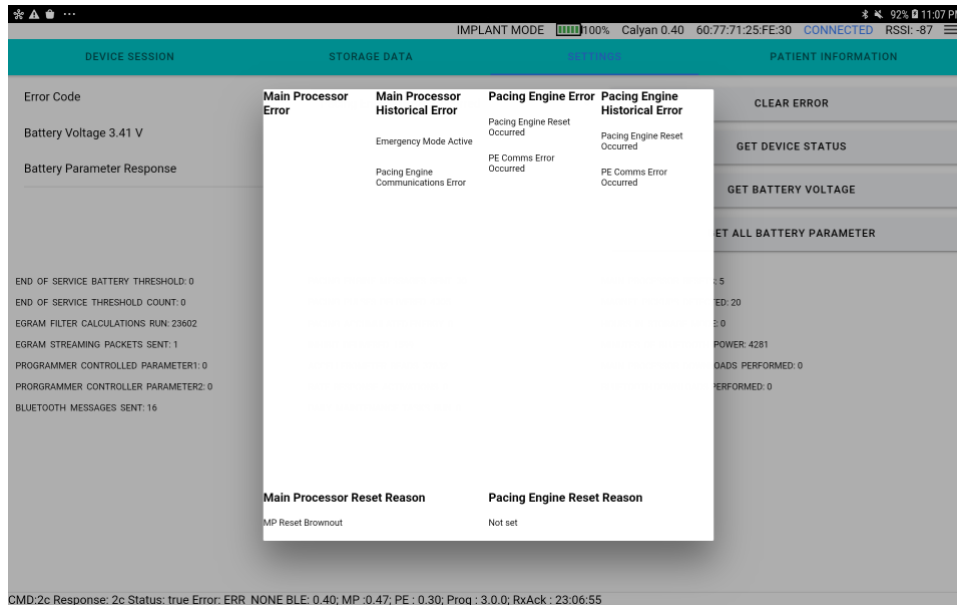

Figure 167: Device Error Screen
2. A dialog box with the following will appear (Figure 167).